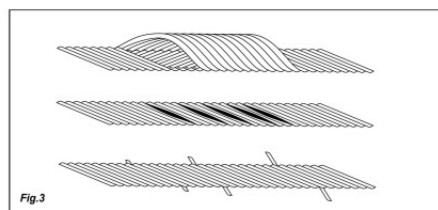

Fig.3
5. Confirm if the steel cable is in good operating mode after per 30 cycles. If there are any damages on the steel cable (see Figure 3), replace the steel cable immediately in accordance with the requirements in the technical data table.